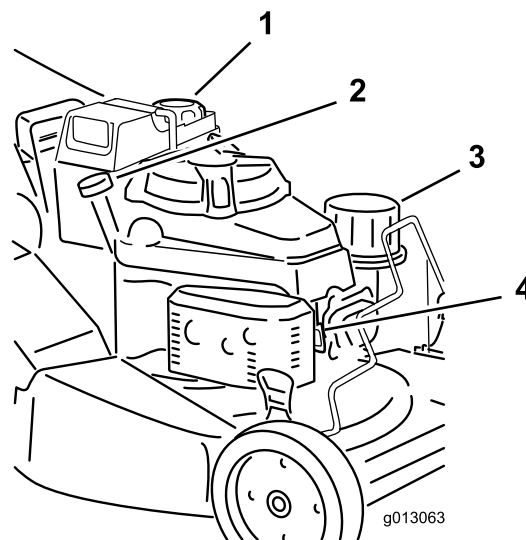

Figure 13
1. Clean around the fuel-tank cap, and remove the cap from the tank (Figure 13).
1. Connect the wire to the spark plug (Figure 13).